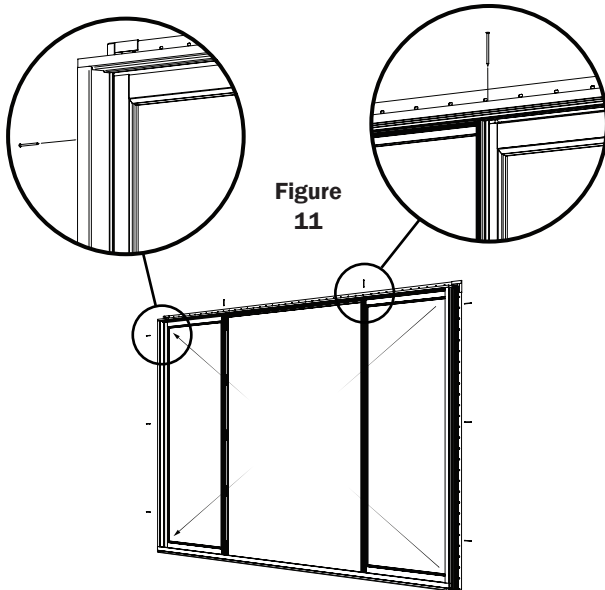

Figure 11
12. Pre-Drill 3 holes into the side jamb, one towards the top, one in the middle and one towards the bottom. Starting on one side and from the top, work down the frame to fasten the provided #6 x 2-1/2" Pan Head screws (Fig. 11). The top screw will go through the head jamb and into the stationary panel stile at the interlock. Repeat on other side (OXXO only).